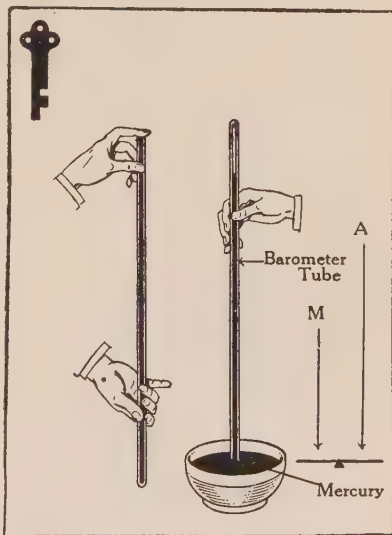

FIGURE 28. — (KEY) DEMONSTRATION 5.
Method: Carefully fill the tube with mercury, using a paper funnel for the purpose. Placing the thumb or first finger tightly over the open end of the tube, invert it in the dish of mercury and then slowly remove the thumb or finger. Fasten the tube in an upright position by the use of a clamp and ring stand so that the bottom of the tube does not touch the bottom of the porcelain dish (Fig. 28).
56. Torricelli's Conclusions.—This great scientist at once saw from his experiment that the weight of the atmosphere was sufficient to support a 30-inch column of mercury or a 34-foot column of water in a vacuum tube of any diameter. He concluded that the weight of the atmosphere pressing down upon the mercury in the dish just balanced the weight of the mercury in the tube. In fact, the air was the effort and the mercury in the tube was the resistance in a lever (Fig. 28) and as the amount of the effort changed, the amount of the resistance changed also. Finally, he weighed a 30-inch column of mercury one square inch in cross section and found that it